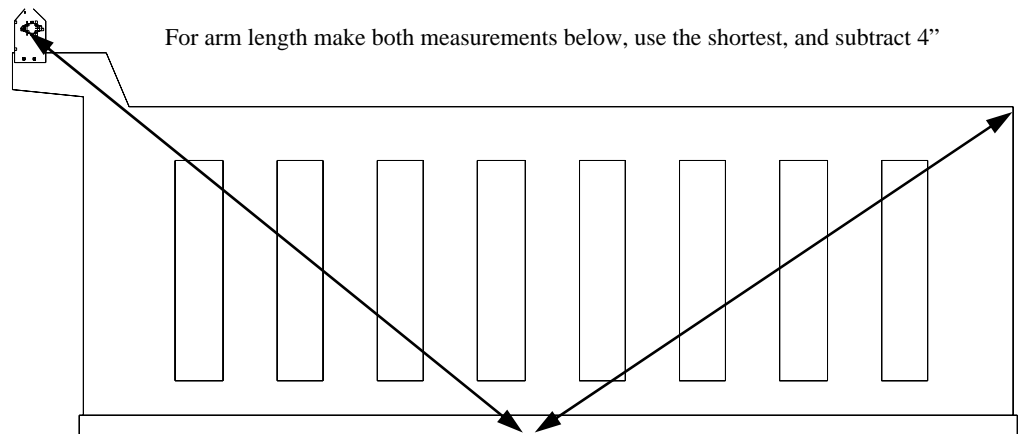

Figure 9
Connecting the arms (P) to the spring shaft. Before connecting the arms you must first determine the length they need to be. To do this, measure from the center of the spring shaft to the rear of the tailgate and subtract 4". This will allow for the legs on the crossover and the arm connector (Note: this method of measurement is used if the pivot point of the system is at or less than seven inches from the center of the dump body. If this measurement is greater than seven inches then measure from the center of the spring shaft to the center of the tarp axle on the roller assembly and subtract 4". This will cause the system to fall just short of the rear of the tailgate), *see figure 9*. When the proper length is achieved, cut the arms and scrap the remaining material.